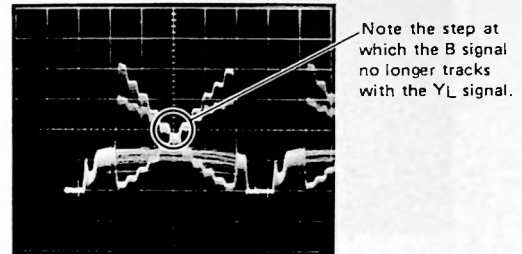

Fig. 4-4-44
- Connect the oscilloscope to TP212 (B) and TP214 (YL).
- Compare the B signal and YL signal on the oscilloscope, and note the step at which the B signal no longer tracks with the YL signal. (Fig. 4-4-44)
In the example shown in Fig. 4-4-44, 6th step is the point of divergence.